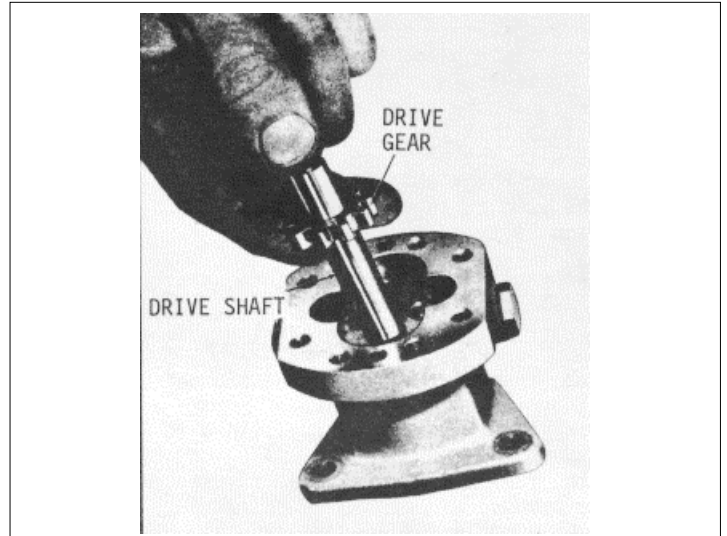

Fig. 10
- (2) Clamp the pump body in a bench vise (equipped with soft jaws) with the valve cavity up. Lubricate the outside diameter of the valve and place it in the cavity with the hollow end up. Insert the spring inside of the valve and the pin inside of the spring. With a new gasket in place next to the head of the valve plug, place the plug over the spring and thread it into the pump body. Tighten the 1/2"-20 plug to 18-22 ft-lbs (24-30 Nm) torque.
- (3) Install the fuel pump drive gear over the end of the drive shaft which is not squared (so the slot in the gear will face the plain end of the shaft). This operation is very important, otherwise fine score marks caused by pressing the gear into position from the square end of the shaft may cause rapid wear of the oil seals. Press the gear beyond the gear retaining ball detent. Then place the ball in the detent and press the gear back until the end of the slot contacts the ball.
- (4) Lubricate the pump shaft and insert the square end of the shaft into the opening at the gear side of the pump body and through the oil seals as shown in Fig. 10.
- (5) Place the driven shaft and gear assembly in the pump body.